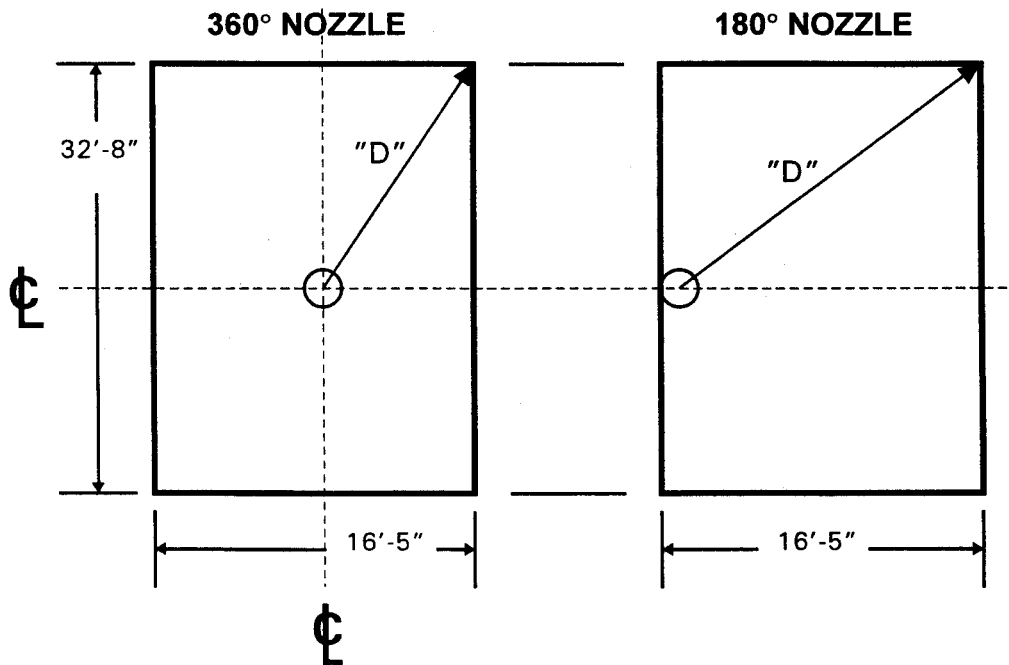

Figure 3.3.5 - Nozzle Placement and Coverage
1. The 360° nozzle which provides a full 360° discharge pattern is designed for placement in the central portion of the hazard. See Figure 3.3.5
2. The 180° nozzle which provides a 180° discharge pattern is designed for placement adjacent to a side wall of the hazard. See Figure 3.3.5
3.3.5 Nozzle Area Coverage. To ensure proper agent distribution, nozzles must not exceed maximum area and height limitations described herein. The maximum height above deck level for a single row of nozzles is 15'-6". Nozzles must be located at 12" ± 2" away from sidewall. Nozzles must be pendant, with inlet (pipe threads) facing upward. For any space with an overhead higher than 15'-6", nozzles should be arranged in tiers each up to 15'-6" apart. The maximum area coverage for each nozzle is described as a straight-line distance from the nozzle to the farthest corner of the protected space (see Figure 3.3.5).